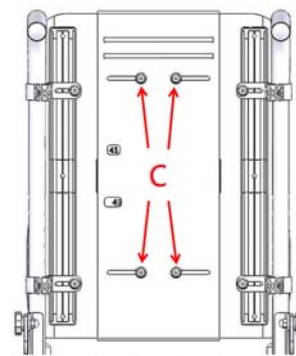

Figure 5-80
5.3.5.11 Use the #4 Allen Key Wrench to loosen the screws C. (Figure 5-80)